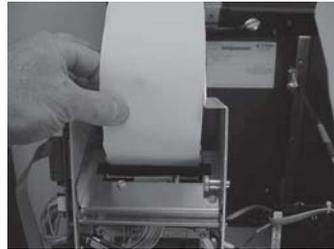

Figure 6-7. Paper feeds automatically when placed in take-up slot.
6. Insert the edge of the paper roll into the printer take-up slot, as shown in Figure 6-7. The printer will automatically grip and pull the paper into the paper path. If the paper feeds automatically, skip to Step 9; if the paper does not feed automatically, continue with Step 7.